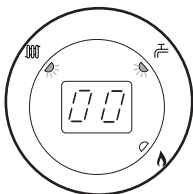

Fig. 91
6. The display will show '00', indicating maximum rate, then revert to 'P' alternating with the current boiler temperature (Figs 91, 92 & 93).